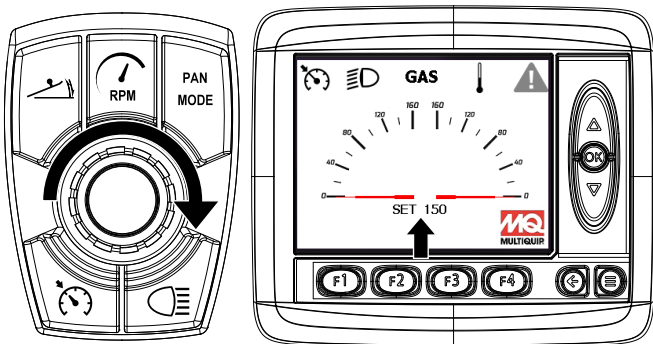

Figure 36. Rotor Speed Selection
6. Turn the **control knob** until the desired rotor speed (60–150 rpm) is displayed. During normal operation this will be the blade speed when the foot pedal is fully depressed. See Figure 36.